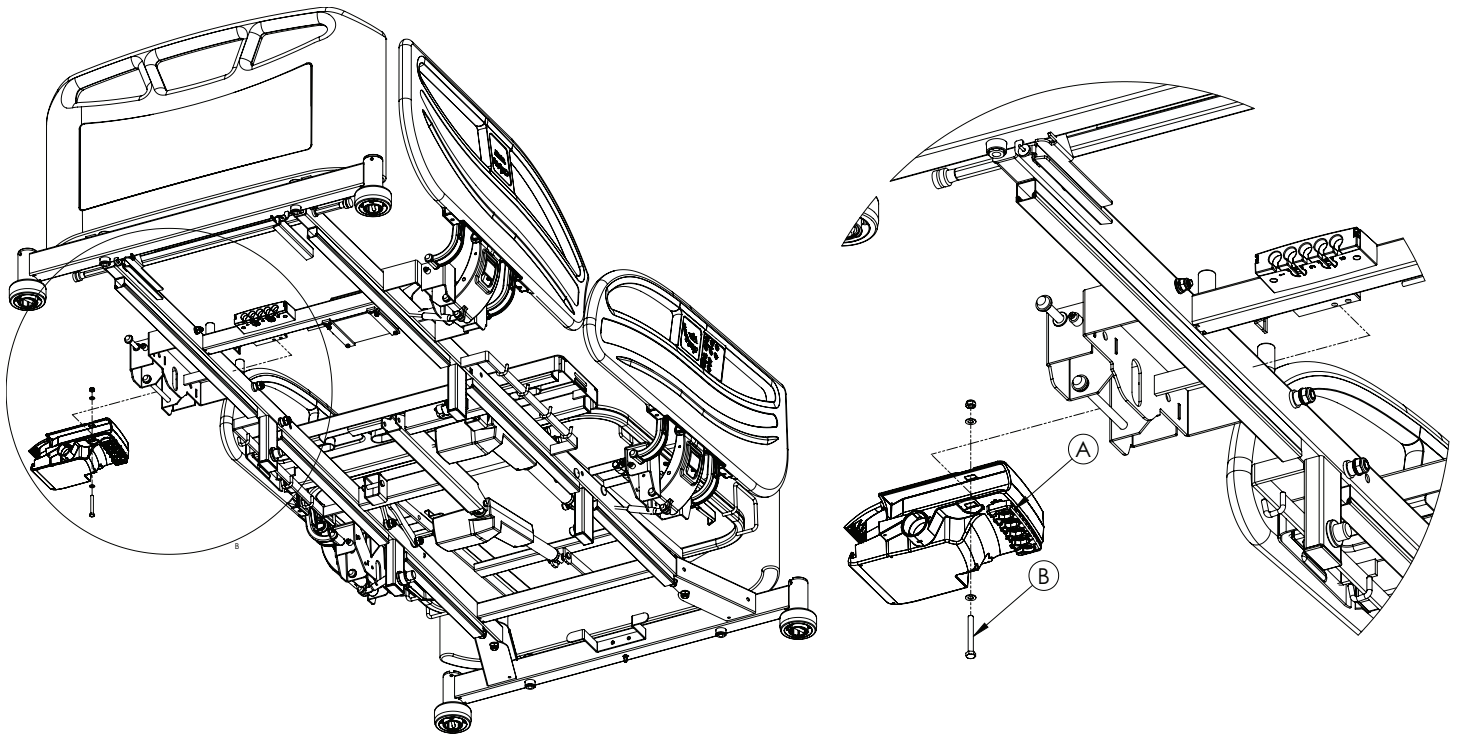

Figure 12 – Control box
6. Using a small flat screwdriver, un-clip the actuator cable retainer (A) from the control box (Figure 12).
11. Using a 10 mm combination wrench and a 10 mm socket, remove the bolt (B) that secures the control box to the litter frame (Figure 12).